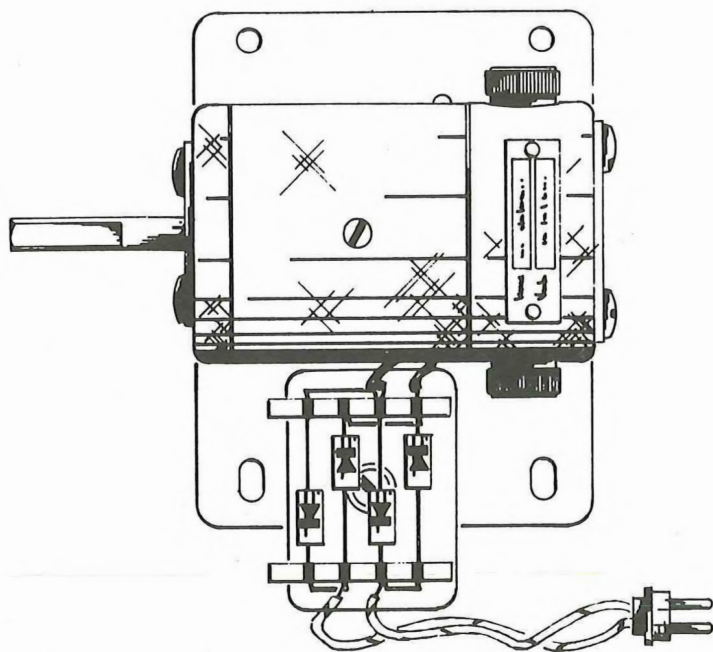

FIG. 2
B. TO REPLACE SELENIUM RECTIFIER IN TYPE 315D: See Fig. 2